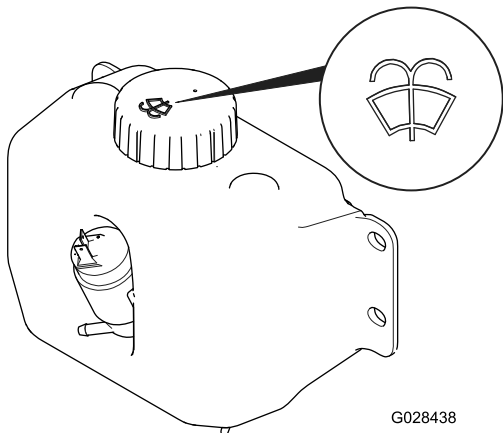

Figure 53
2. Open the hood and locate the washer-fluid bottle (Figure 53).